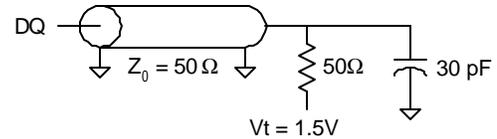

Fig. 1 OUTPUT LOAD EQUIVALENT
| Output load                   | See Figures 1 and 2 |
- Test conditions as specified with the output loading as shown in Fig. 1 unless otherwise noted.
- Capacitance derating applies to capacitance different from the load capacitance shown in Fig. 1 or Fig. 3, for 3.3V or 2.5V I/O respectively